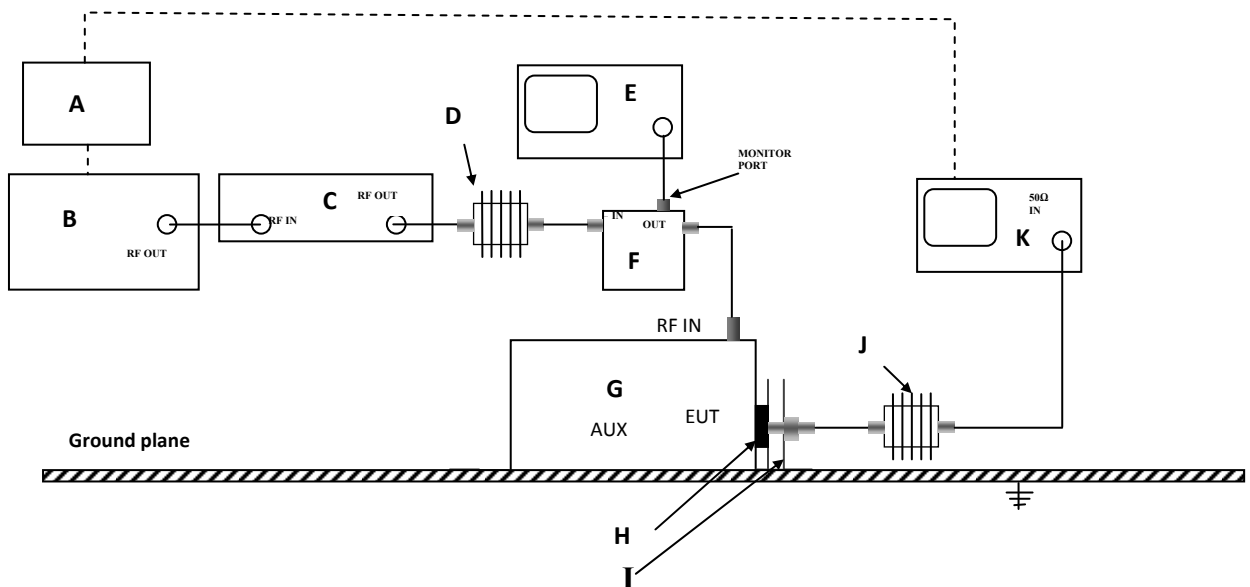

Figure 1: Typical Test level calibration setup
Before you begin testing with the CDN you will need to establish a calibrated drive levels corresponding to your desired test levels. During drive level calibration the RF signal level being injected to the CDN is adjusted incrementally until the voltage level measured at the 150Ω to 50Ω adapter connected to the EUT port is approximately equal to the Umr (150) value given in table 1, and the signal generator output, or forward power delivered to the CDN is recorded. This process is then repeated at each frequency starting at 150 kHz with step sizes no greater than 1% of the preceding frequency value up to 80 or 230 MHz. This equates to 633 discrete test frequency points up to 80 MHz and 739 points up to 230 MHz. Record the signal generator output at each frequency. Typical test level calibration setup is shown in figure 1 below.